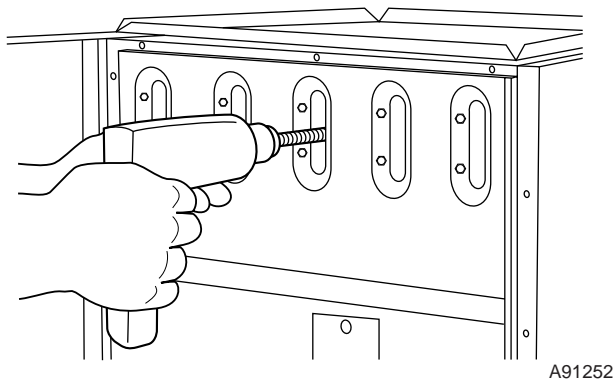

Fig. 52—Cleaning Heat Exchanger Cell
- (2.) Insert brush end of cable into the outlet opening of cell and slowly rotate with drill. **DO NOT** force cable. Gradually insert cable into upper pass of cell. (See Fig. 52.)